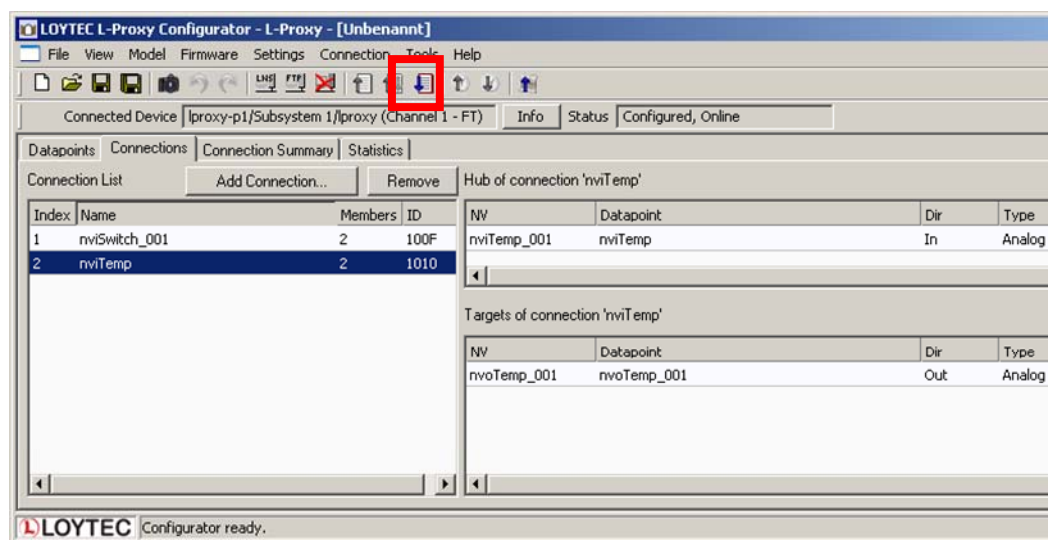
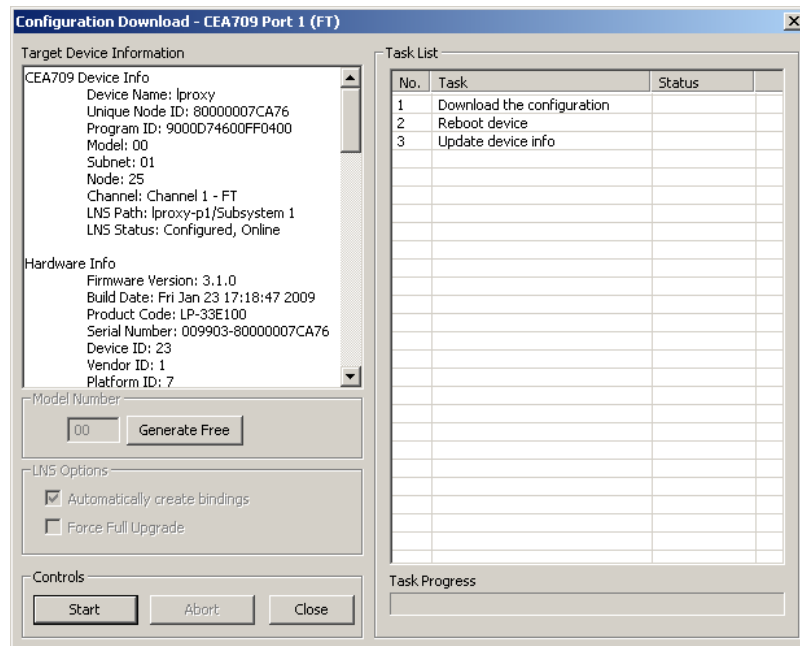

Figure 4: Generated connections.
Figure 5: Download the configuration to the L-Proxy.
- Click on the **Connections** tab and view the generated connections as shown in Figure 4.
- Click on the **Download Configuration** button in the tool bar as indicated by the red rectangle in Figure 4. This opens the configuration download dialog as shown in Figure 5.